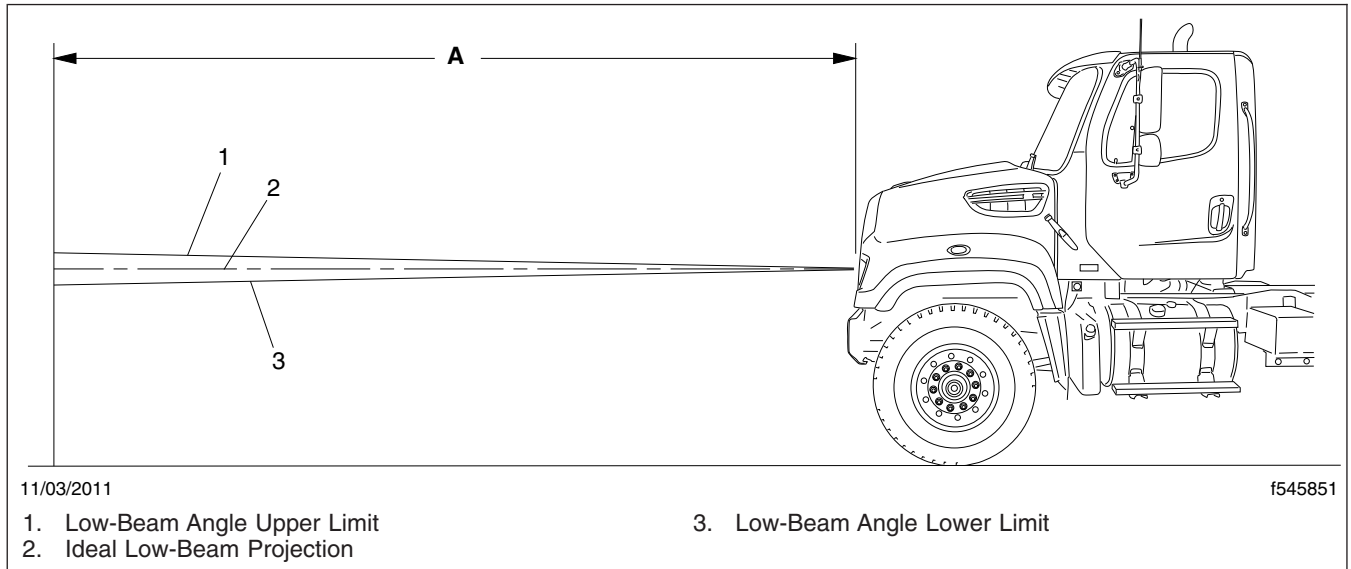

Fig. 23.2, Vertical Low-Beam Headlight Variation Limits
6. Check the vertical adjustment of the low beams. The center of each beam projection should fall on or near the marks made during step 4. See **Fig. 23.2**.